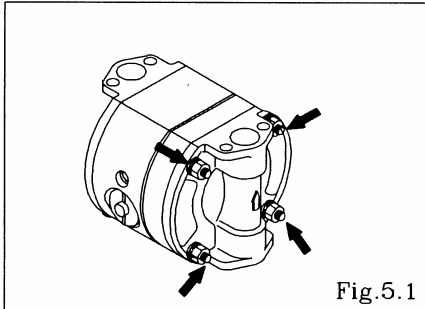

Fig.5.1
See [9. Exploded View] on after p.11. (Fig. 5.1, 5.2 and 5.3 show the NDP-5 FAT.)
- Remove the 8 (12 on the NDP-15) retainer bolts from the out chamber, and remove the out chamber. [Fig.5.1]